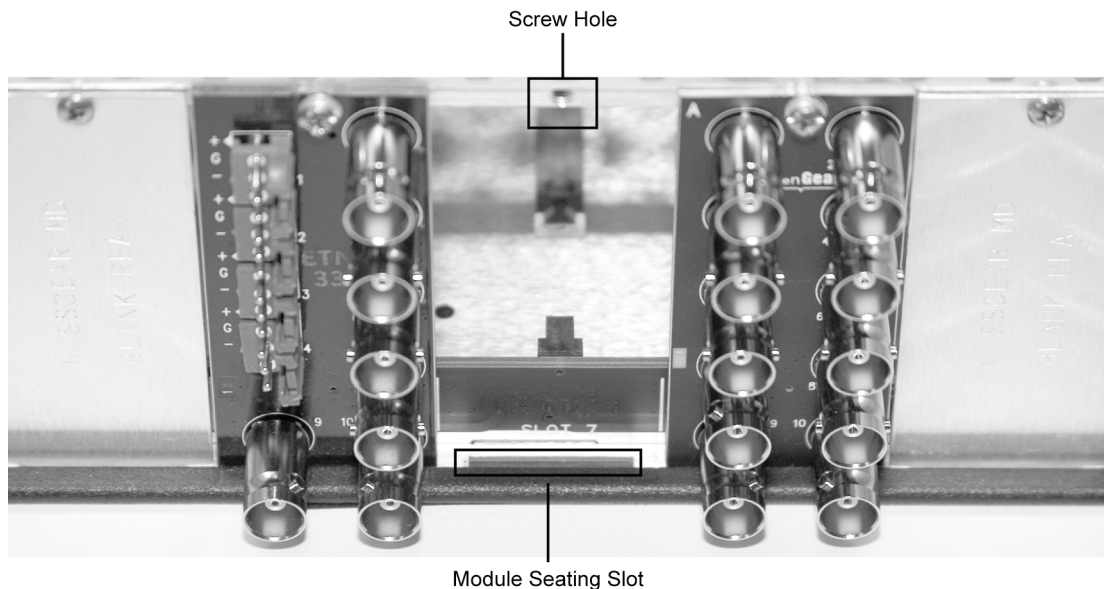

Figure 2.1 Rear Module Installation (DEA-8205 not shown)
3. As shown in **Figure 2.1**, seat the bottom of the Rear Module in the seating slot at the base of the frame's back plane.